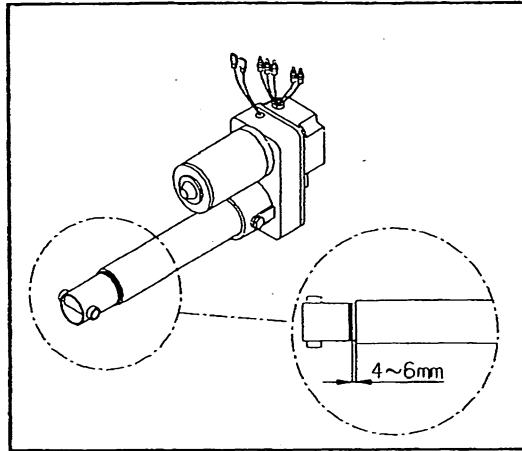

Fig.8-7
4. Please note the Line Mark on the FRONT RAISED TUBE must have 4 – 6 MM space with the edge of the HOLLOW TUBE of ELEVATOR. (see fig.8-7)